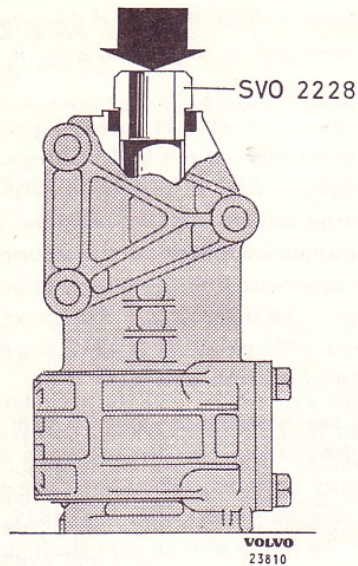
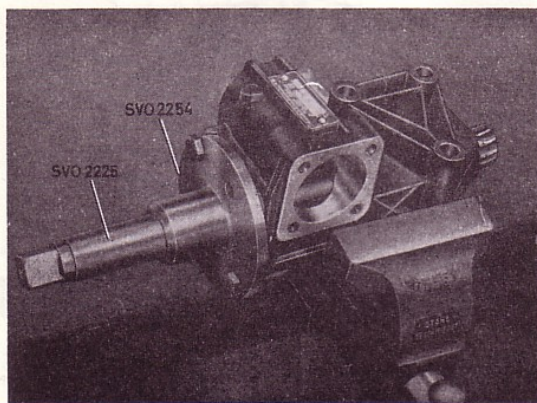

Fig. 35. Fitting the pitman arm shaft bush.
Fig. 36. Reaming the pitman arm shaft bushes.
1. Press in the pitman arm shaft bushes from either direction with drift SVO 2228 and standard handle SVO 1801, see Fig. 35. Ream the bushes with reamer SVO 2225. Use guide SVO 2254, which is attached to the housing with two bolts, see Fig. 36. Thoroughly clean all metal shavings from the housing after reaming.